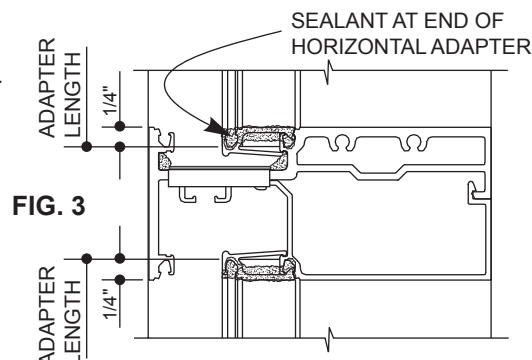

FIG. 3
STEP 3: Snap vertical adapters into glazing reglets of frame and assemble frame as instructed. In partial length applications, vertical adapter should be positioned to allow sealing of the horizontal adapter to the vertical adapter (approximately 1/4" projection into horizontal pocket, Figure 3). It may be necessary to lightly crimp vertical adapter in place to prevent sliding.
STEP 4: Snap vertical adapters in to glazing reglets of frame. Adapter should be positioned to allow sealing of horizontal adapter to the vertical adapter (approximately 1/4" projection into horizontal pocket, Figure 3)